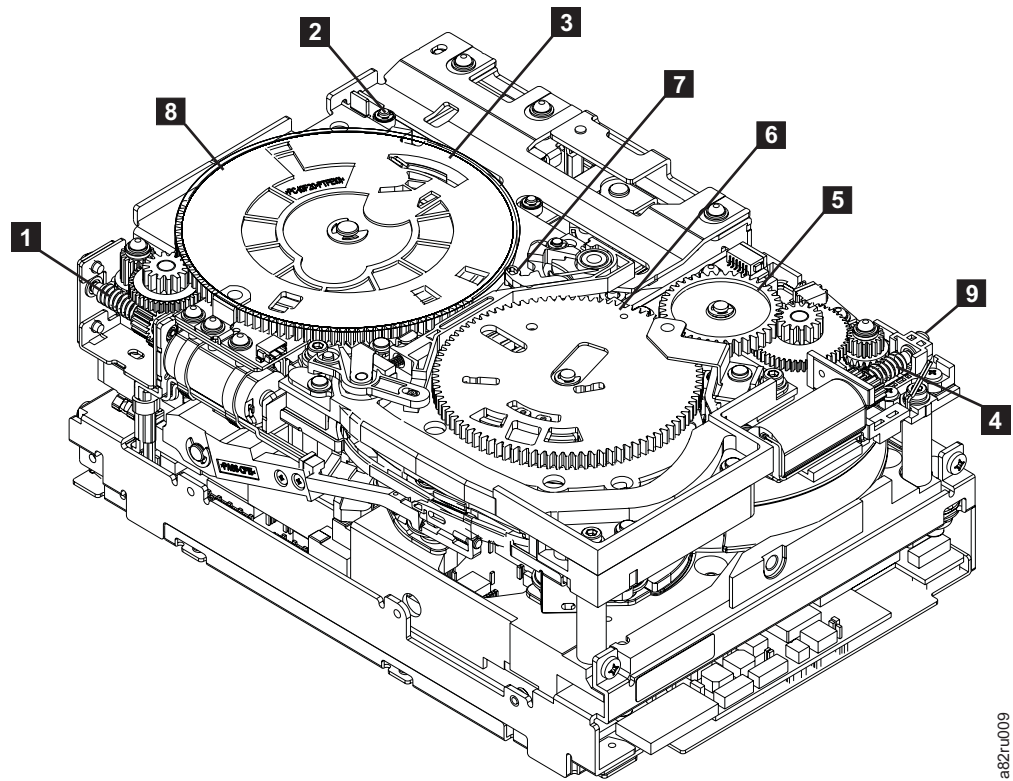

Figure 16. Drive with cover removed to reveal gear train.
- \_\_\_ Step 6. Locate the threader motor worm gear ( **4** in Figure 16) on the rear of the drive. You can either:
- a. Use your finger to rotate the threader motor worm gear and slowly rotate the threader mechanism gear ( **6** in Figure 16) clockwise;
- b. Use a #1 flathead screwdriver to turn the worm gear ( **9** in Figure 16) clockwise.
This rotates the threader motor worm gear ( **4** in Figure 16) clockwise, drawing the LBA into the cartridge.
- \_\_\_ Step 7. As the tape leader block assembly (LBA) is secured in the cartridge, you should hear the LBA retention spring clips click into place. If you do not hear the click, continue rolling until the threader motor worm gear ( **4** in Figure 16) stops. The LBA is in the correct position.
- a. Loader mechanism gear ( **6** in Figure 16 on page 60) nearest the front of the drive that actuates the cartridge loader mechanism.
- b. Position of the rotate stub ( **3** in Figure 16 on page 60).
- c. Front loader motor worm gear ( **1** in Figure 16 on page 60). Rotating this gear allows the loader mechanism gear ( **8** in Figure 16 on page 60) to turn.
- \_\_\_ Step 9. Rotate the loader motor worm gear ( **1** in Figure 16 on page 60) to turn the threader mechanism gear ( **6** in Figure 16 on page 60) counterclockwise. Continue turning until the rotator stub ( **3** in Figure 16 on page 60) loses contact with the lever ( **7** in Figure 16 on page 60). This releases the LBA leader pin.
- \_\_\_ Step 10. Rotate the threader motor worm gear ( **4** in Figure 16 on page 60) to turn the threader mechanism gear ( **6** in Figure 16 on page 60) counterclockwise. This moves the LBA out of the cartridge and past the read/write head. Stop this rotation when the LBA is near the tape guide roller nearest the rear of the drive shown as **1** Figure 17.
- \_\_\_ Step 11. Continue rotating the loader motor worm gear ( **1** in Figure 16 on page 60) until the rotator stub ( **3** in Figure 16 on page 60) is positioned as shown. Notice that the rotator stub ( **3** in Figure 16 on page 60) is nearly aligned with the cartridge loader tray guide bearing ( **2** in Figure 16 on page 60).
- \_\_\_ Step 6. As the tape leader block assembly (LBA) is secured in the cartridge, you should hear the LBA retention spring clips click into place. If you do not hear the click, continue rolling until the threader motor worm gear (**4** in Figure 16 on page 60) stops. The LBA is in the correct position.